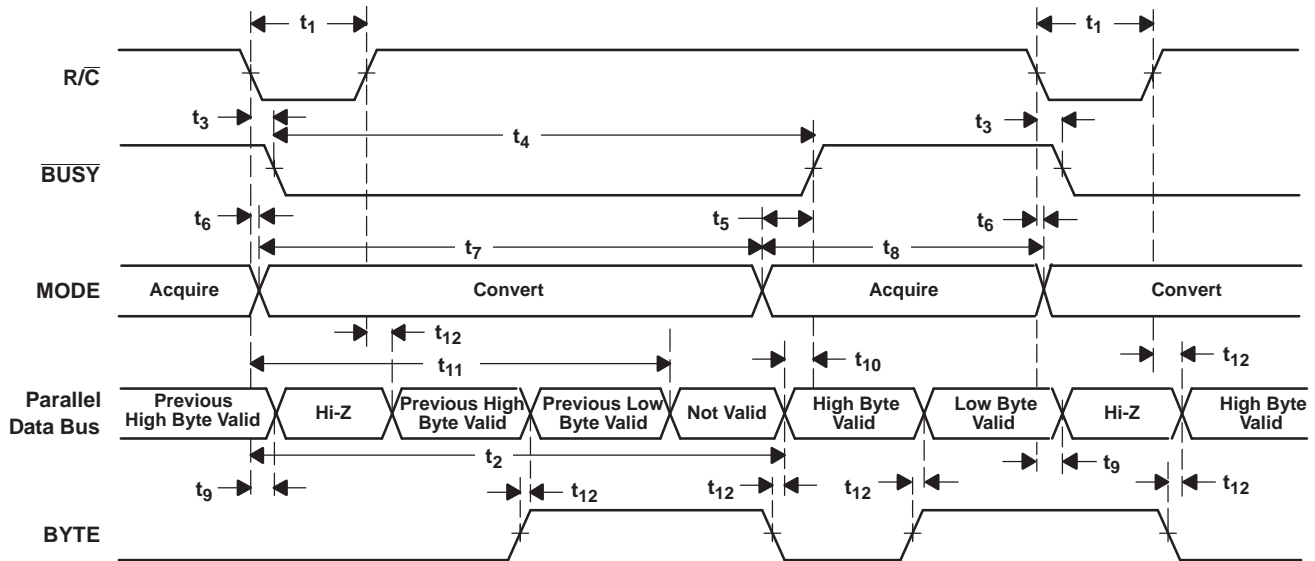
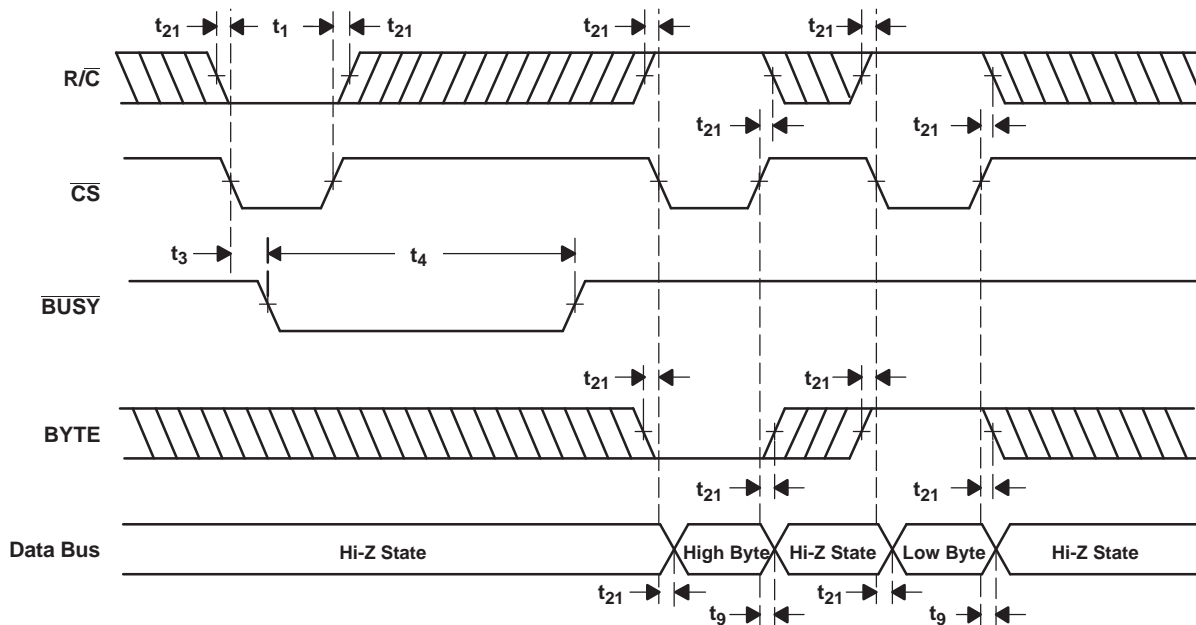

Figure 30. Conversion Timing With Parallel Output ($\overline{\text{CS}}$ and $\overline{\text{DATACLK}}$ Tied Low, EXT/INT Tied High)
Figure 31. $\overline{\text{CS}}$ to Control Conversion and Read Timing With Parallel Outputs
The ADS8517 begins tracking the input signal at the end of the conversion. Allowing 5 μs between convert commands assures accurate acquisition of a new signal. Refer to Table 2 and Table 3 for a summary of $\overline{\text{CS}}$, $\overline{\text{R/C}}$, and $\overline{\text{BUSY}}$ states, and Figure 30 through Figure 36 for timing diagrams.
(1) See Figure 30 and Figure 31 for constraints on data valid from conversion $N-1$.
After conversion *N* is completed and the output registers have been updated, $\overline{\text{BUSY}}$ (pin 24) goes high. Valid data from conversion *N* are available on D7-D0 (pin 9-13 and 15-17). $\overline{\text{BUSY}}$ going high can be used to latch the data. Refer to Table 5, Figure 30, and Figure 31 for timing specifications.
After conversion N has been initiated, valid data from conversion $N-1$ can be read and are valid up to $2.2\ \mu\text{s}$ after the start of conversion N . Do not attempt to read data beyond $2.2\ \mu\text{s}$ after the start of conversion N until $\overline{\text{BUSY}}$ (pin 24) goes high; doing so may result in reading invalid data. Refer to Table 5, Figure 30, and Figure 31 for timing constraints.